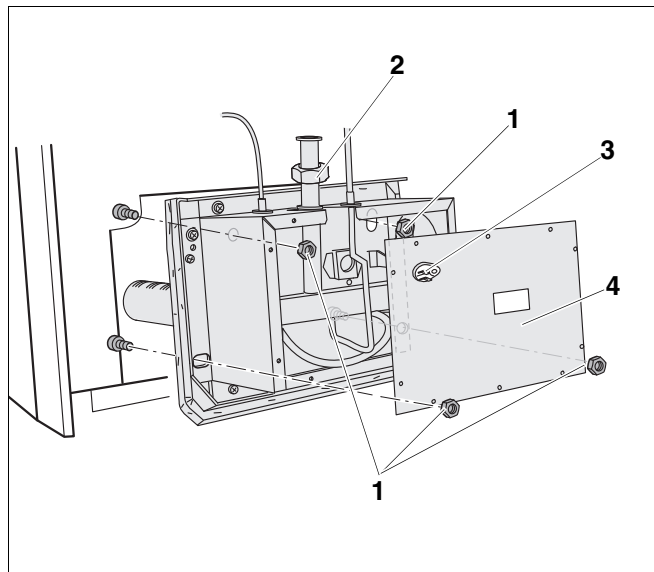

Fig. 39 Removing gas burner
6. Remove screws (→ Fig. 39) between gas valve and burner box. Place the gas connection pipe gasket in a safe place.